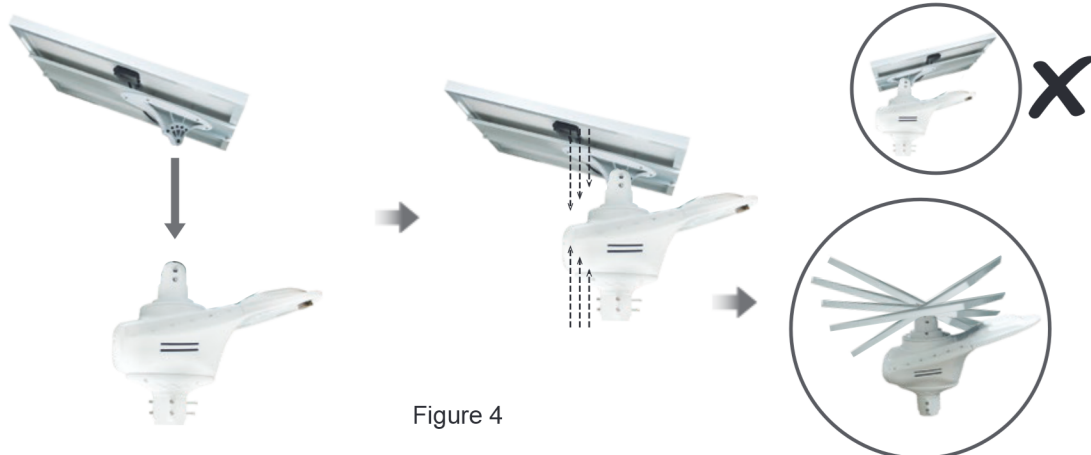

Figure 4
- ③ **Solar panel:** Use 2pcs M8x30 screws and 1set M8x100 screw to fix the multi-angle bracket. Select the correct holes according to the required angle and direction for your location. Make sure the solar panel is facing towards the sky and the shorter end is towards the lamp, otherwise you will not be able to set it at the correct angle. (See Figure 4).